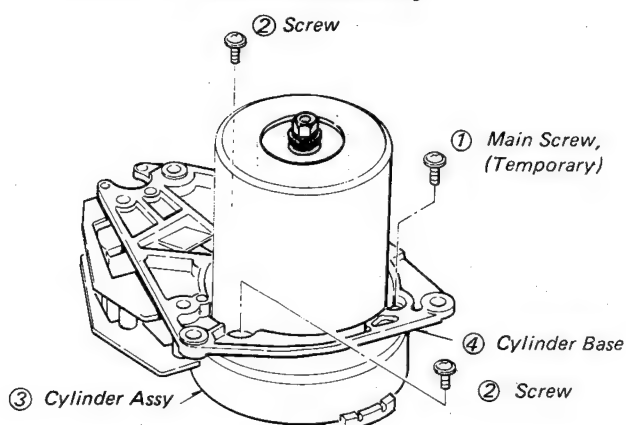

Fig. 5-76 Cylinder Base Removal and Installation.
11. In turn, remove the three screws ① and ② and take out the cylinder assembly. (see Fig. 5-76.)
12. In turn, replace the cylinder assembly and disk motor rotor and stator as follows. Also, refer to Figs. 5-76, -77, and -78.
- a. Remove the screws ① and ② and take out the cylinder assembly ③ (see Fig. 5-76).
NOTE: To install the cylinder assembly ③ on the cylinder base ④ proceed as follows: (see Fig. 5-76, 77, 78)
- i. Lightly tighten the screws ① and ② in Fig. 5-76.
- ii. Press the cylinder base ④ toward the clockwise direction and tighten the screws ① and ②.
- b. Loosen the nut ⑬, remove it.
- c. Remove the spring washer ⑫.
- d. Remove the washer ⑪.
- e. Remove the Rotor ⑩.
- f. Disconnect 3-pin connector ④ from the stator ⑧.
- g. Loosen two screws ⑨ and remove the stator ⑧.